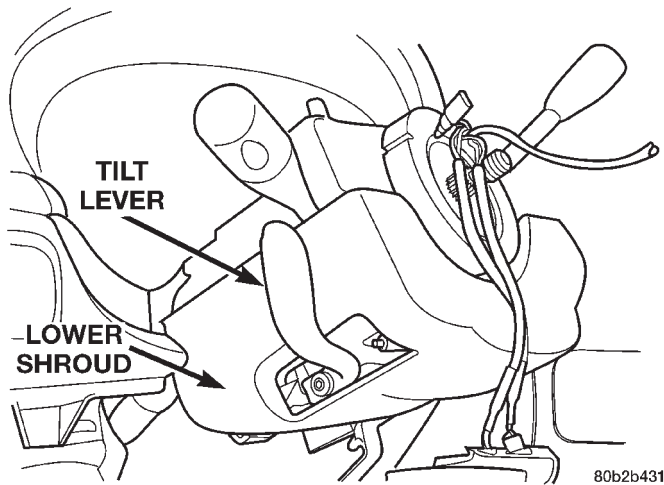

Fig. 14 Tilt Lever
(19) Remove the tilt lever (Fig. 14) from the steering column.
(15) Install the tilt lever (Fig. 14) on the steering column.
(16) Install the upper shroud on the steering column by snapping it onto the lower shroud.